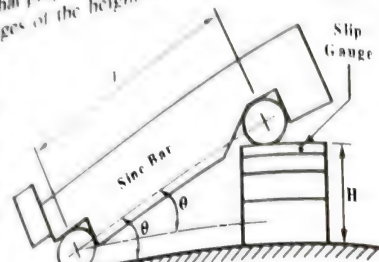

Fig. 2.29
Ans. Use of Sine Bar for Setting an Angle – A sine bar can be used to precisely set out any angle. For that purpose, the sine bar is first placed on a surface plate. After that slip gauges of the height required to produce the desired angle are placed under the one roller and opposite the angle θ as shown in fig. 2.29. The centre distance between the rollers (L) which is known will be the hypotenuse and the required perpendicular or height of slip gauges (H) can be determined using the relation.